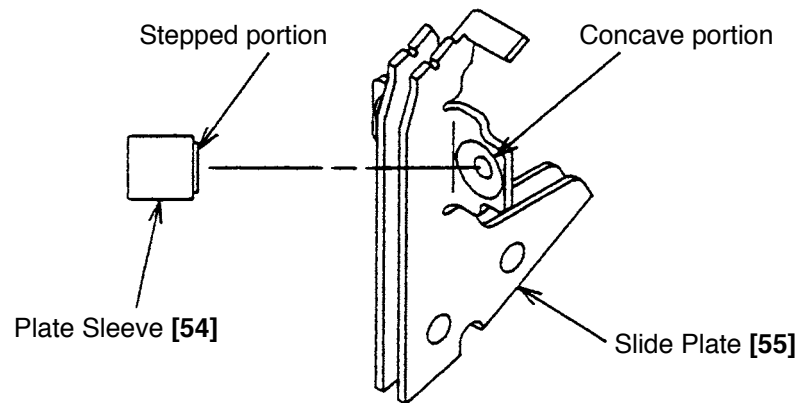

Fig. 31
- Mount the Plate Sleeve [54] facing the stepped portion to the handle so that the stepped portion fits in the concave portion of the Side Plate [55] (Fig. 31).